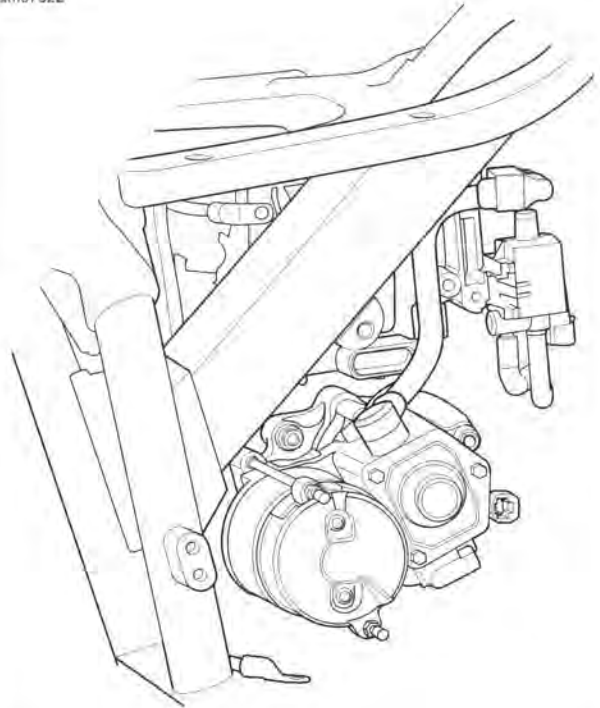

Figure 7-18. Starter Cable Correct Routing From Starter to Battery Area
- See Figure 7-18. Install battery. Verify that all battery cables are routed correctly.